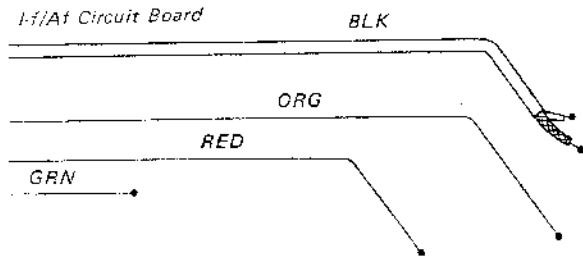

Fig. 2-12. Fm front end block removal
3. Unsolder the three leads and a coaxial cable on the i-f/a-f circuit board coming from the fm front end block in Fig. 2-12. (Refer to: I-f/A-f Circuit Board Removal on Page 5.)